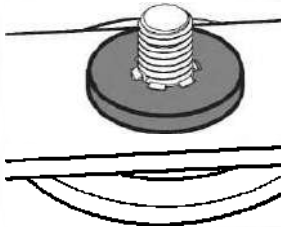

Figure 4-24
2. Carefully place the flat washer on the spindle shaft. Be sure that the splines at the base of the spindle shaft threads line up with the washer splines. See Figure 4-24.